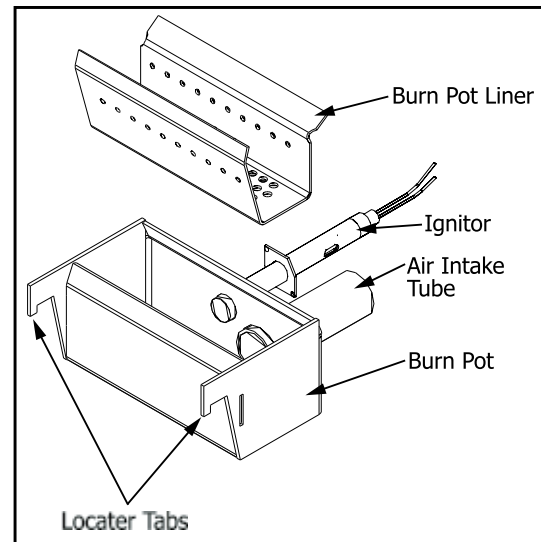

Figure 9: Burn Pot Assembly.
Cleaning of the burn pot and liner must only be done when stove is cold. To remove the burn pot and burn pot liner, open the door using the door handle provided (located on the right-hand side of the stove). Swing the door open. Lift the liner from the burn pot. Lift the burn pot from the firebox by gently lifting up the front of the burn pot, then sliding the assembly from the air intake tube and the ignitor cartridge. See figure 9.
This is the 'pot' where the pellets are burned. Every two (2) to three (3) days (when the unit is cold), remove the burn-pot liner from the stove and inspect it to ensure proper air flow through the liner. **Failure to keep the liner clean may cause a build up of fuel past the burn pot liner and up the drop tube. This will cause the auger to jam and may result in pellets burning in the drop tube and hopper.** Using a metal scraper, remove material that has accumulated or is clogging the liner's holes. Then dispose of ashes from the liner and from inside the burn-pot. Place the burn-pot back into the stove, making sure that the pipes are properly inserted into the burn pot and locator tabs (see figure 9) are properly seated in the locator holes. Place the liner back into the burn-pot, making sure that the ignitor hole in the liner is aligned with the ignitor tube. Push the liner up against the ignitor tube.